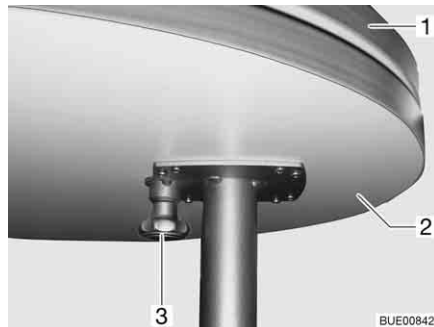

Fig. 95 Fixed table
- Pull the knob (Fig. 95,3) of the lock down and swing out the table-top extension (Fig. 95,2).
- Swing the table-top extension (Fig. 95,2) under the table-top (Fig. 95,1) until the lock latches in place audibly.